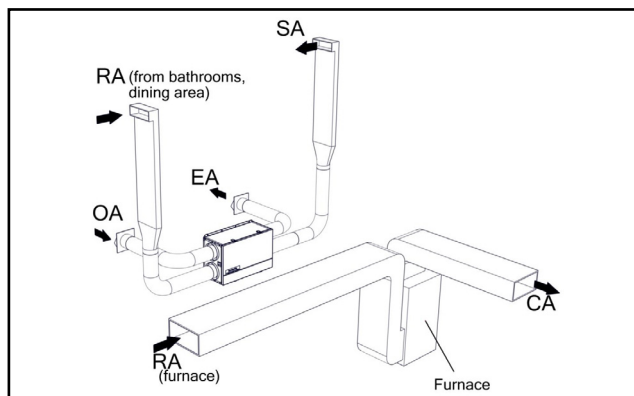

FIGURE 2.4.1 SEPARATE RETURN AIR AND SUPPLY AIR SUPPLY, EV130 SHOWN
• FOR HOUSES WITHOUT DUCTED HEATING OR COOLING SYSTEMS—SEE FIGURE 2.4.1.